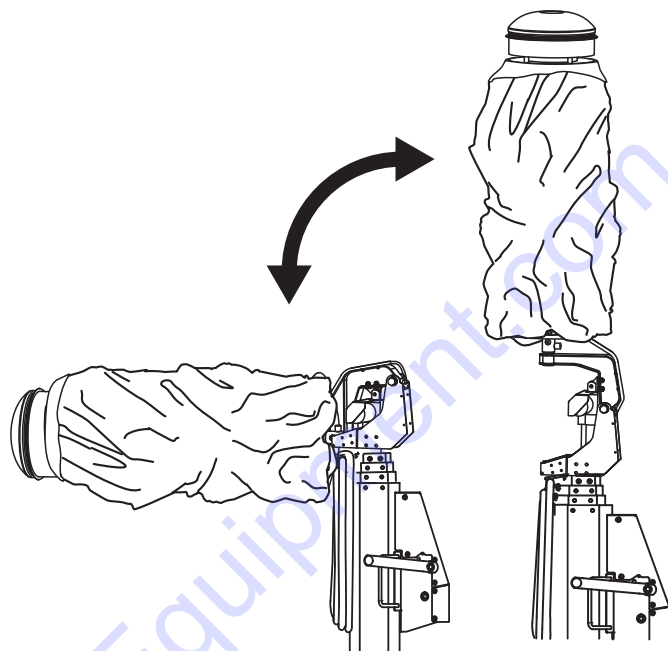

Figure 11. Raising and Lowering Lampstand
4. The lampstand will begin to rise (Figure 11). When the lampstand is in the desired position, release the actuator switch. The actuator switch will return to the center position automatically and lampstand will stop rising.